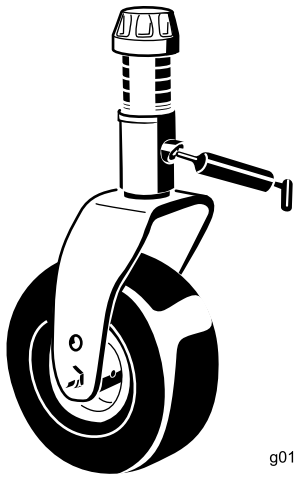

Figure 55
- 1 caster-fork-shaft bushing (Figure 55)